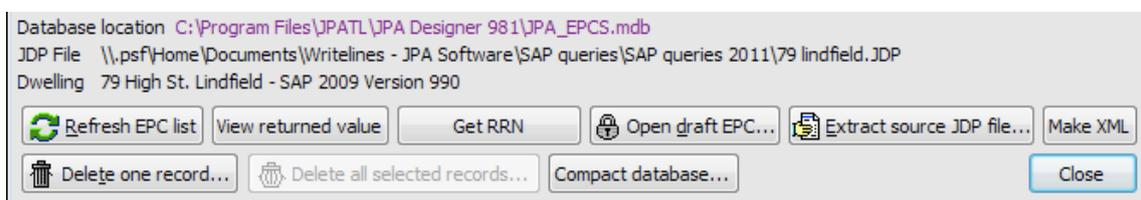

Figure 3.3: The Get RRN button at the bottom of the EPC Request Management dialogue
3. Click the **Get RRN** button (Figure 3.3). JPA Designer copies the RRN to the Windows clipboard.